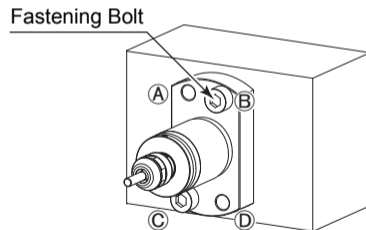

Fig. 37
- ③ Secure the motor spindle through the counter-sunk holes (2 locations : ① and ④ / ② and ③) on the flange using bolts as shown in Fig. 14. Refer to table 4 and Fig. 37 (For BMF-319).